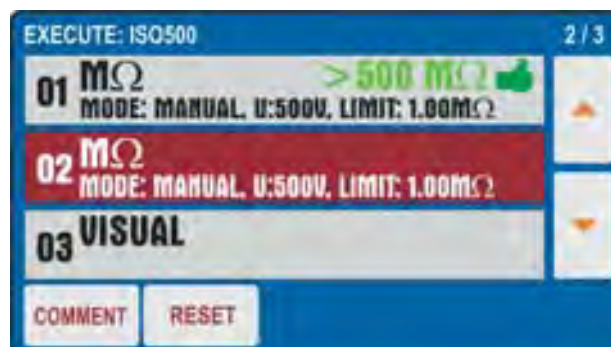

Fig. 77 : AUTO TEST Function - Partial result test 01
5. Press the **START/STOP** key again to end the "01" test. The instrument will save the first partial result of the Autotest and automatically prepares itself for the execution of the next "02" test (see Fig. 77)